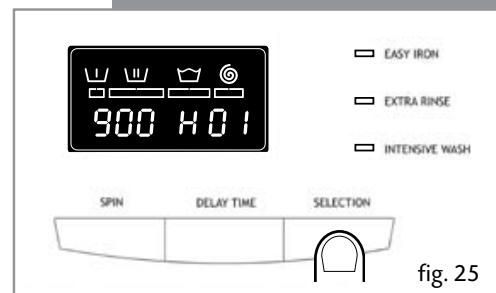

fig. 25
- Press the button and the desired option will be displayed (Figure 25).